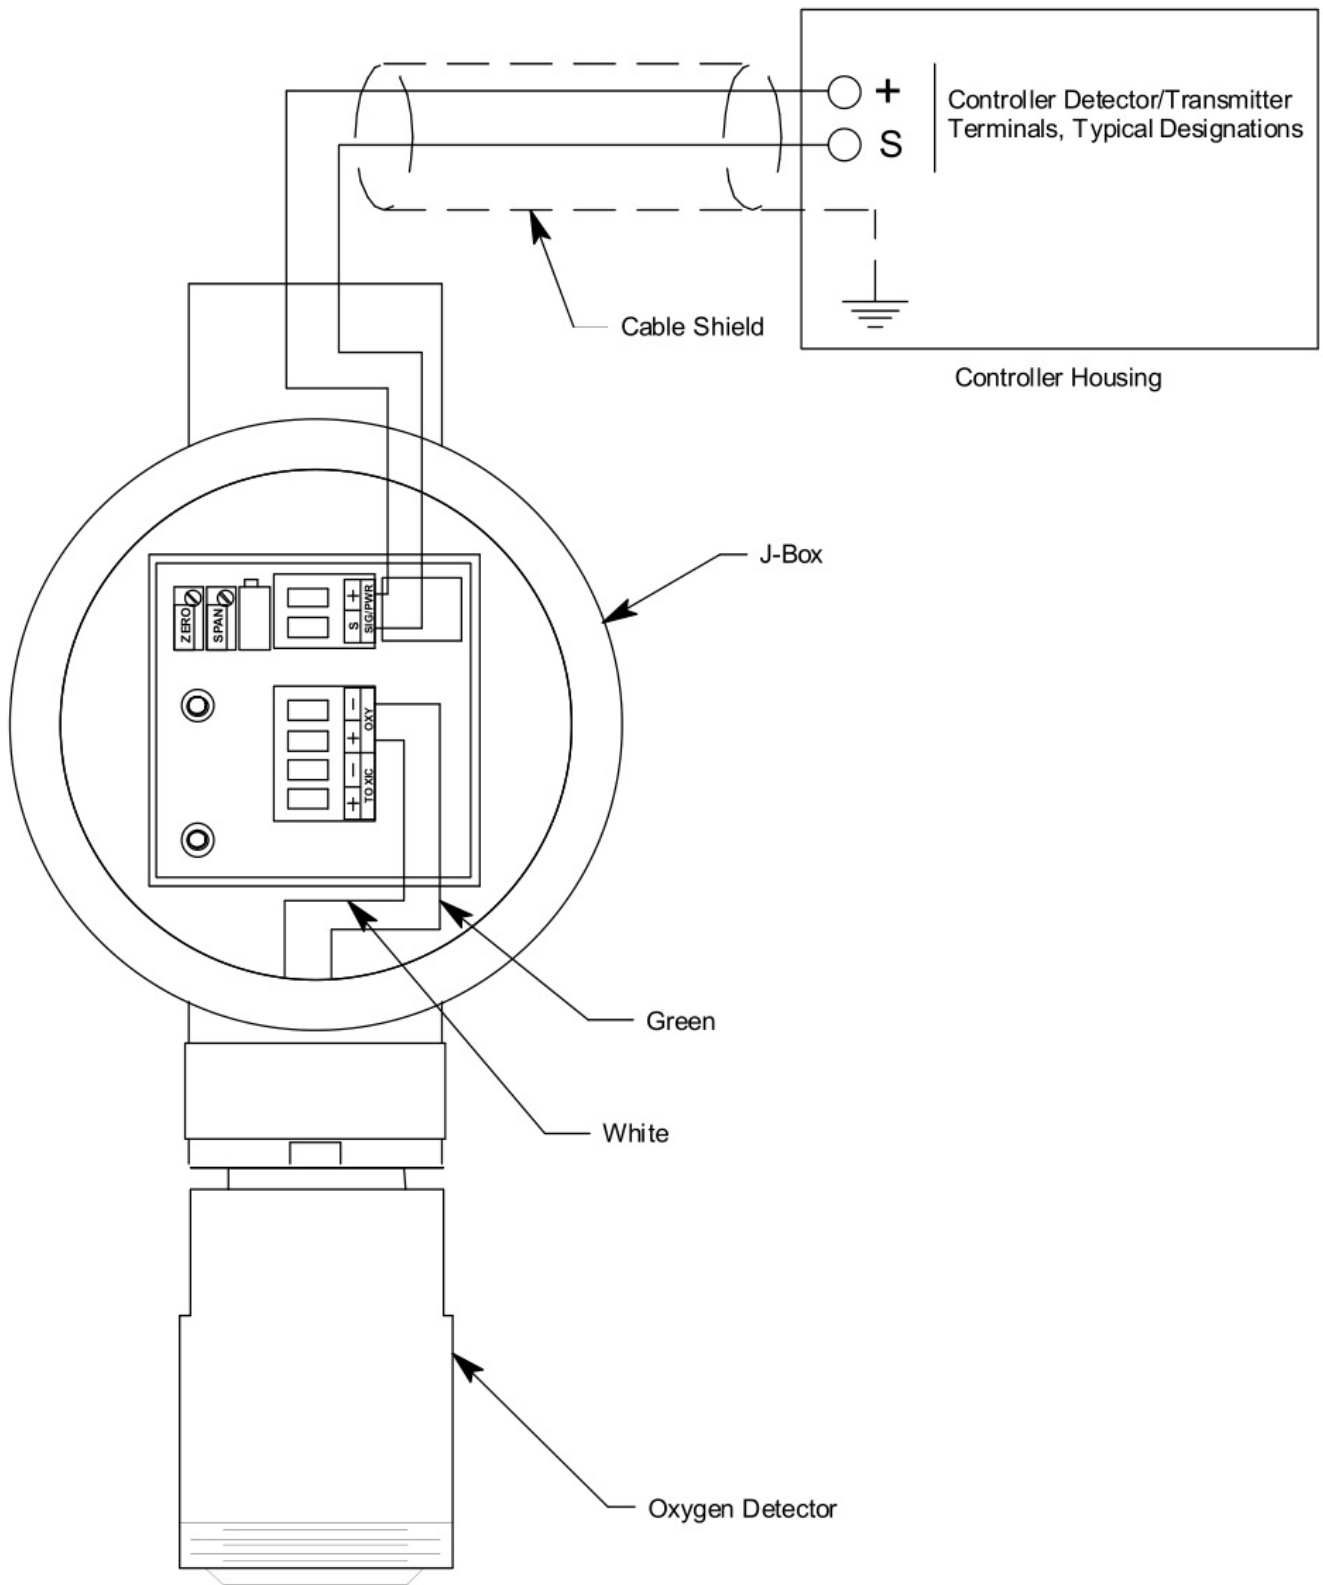

Figure 3: Wiring the Oxygen Transmitter to a Controller
4. The detector leads are factory wired. Verify that the detector leads are wired to the amplifier's detector terminal strip as shown in Figure 3.
7. Pull out the controller terminal strip, and connect the two wires to the terminal strip as follows (see Figure 3).
11. Connect the wires to the applicable detector/transmitter terminal strip at the controller as shown in Figure 3
Connect the white wire to the terminal labelled Oxy + and the green wire to the terminal labelled Oxy -. See Figure 3 on page 6 for the detector wiring connections to the amplifier.
8. Install the detector and controller terminals strips into their sockets on the new amplifier as shown in Figure 3 on page 6. If controller leads or detector leads were removed during this procedure, refer to Figure 3 on page 6 for the detector and amplifier connections.